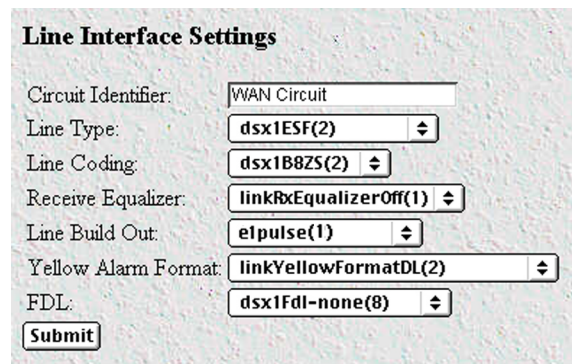

Figure 29. WAN Circuit Configuration window, Line Interface Settings section
2. Link: 1 corresponds to Line 1 on the RAS. This is the primary link for dial-in callers. Under Link 1, Click on Configuration then Modify. The Line Interface Settings section of the WAN Circuit Configuration window appears (see figure 29).
1. Click on the Line Type pop-up menu (see figure 29 on page 41) and choose from the following options:
- For an E1/PRI line your options will be either dsx1E1(4) or dsx1E1-CRC(5)
- For an E1/R2 line your options will be either dsx1E1-MF(6) or dsx1E1-CRC-MF(7)
2. Click on the Line Coding pop-up menu (see figure 29 on page 41) and choose either dsx1AMI(5) or dsxHDB3(3). Most installations will use HDB3.
3. Click on the Line Build Out pop-up menu (see figure 29 on page 41) and select e1pulse(1).
4. Click on Yellow Alarm Format pop-up menu (see figure 29 on page 41) and choose from the following options:
2. Link: 1 corresponds to Line 1 on the RAS. This is the primary link for dial-in callers. Under Link 1, Click on Configuration then Modify. The Line Interface Settings section of the WAN Circuit Configuration window appears (see figure 29 on page 41).
2. Click on the Line Coding pop-up menu (see figure 29 on page 41). The most common options are: dsx1B8ZS and dsx1AMI. For ISDN PRI service, set the line coding to dsx1B8ZS.
3. Click on the Line Build Out pop-up menu (see figure 29 on page 41) and select t1pulse0dB(1).